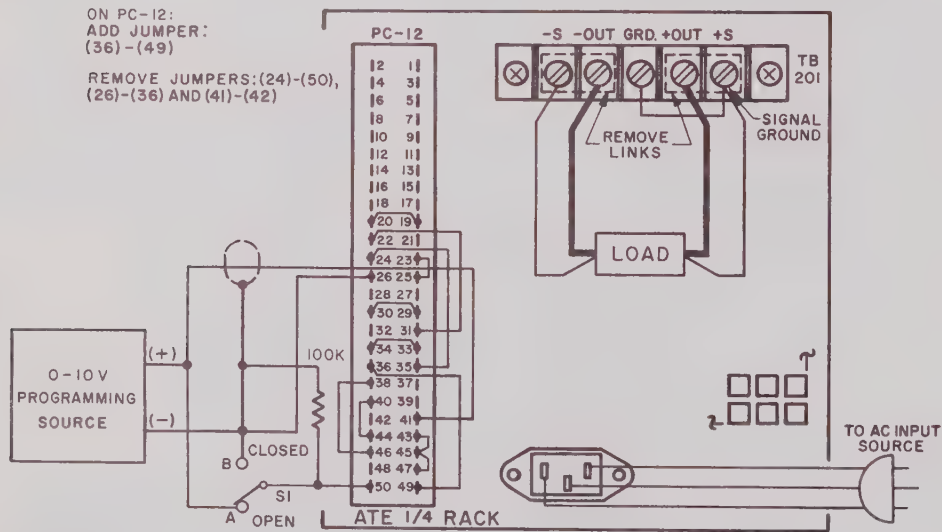

FIG. 3-15 CONNECTIONS FOR SIMULTANEOUSLY PROGRAMMING THE ATE OUTPUT VOLTAGE AND THE CROWBAR LEVEL (AUTOMATIC TRACKING).
- 1) Connect jumpers on the REAR PROGRAMMING CONNECTOR as indicated in FIG. 3-15 and connect switch (S1) as shown. Turn front panel CROWBAR LEVEL control fully counterclockwise.
- 2) Connect a substitute LOAD and the EXT. PROGRAMMING SOURCE as shown in FIG. 3-15.
- 4) Remove S1, and connect a jumper between (41)–(50) of PC–12. Connect the actual LOAD, reactivate the ATE circuit breaker and commence operation. Should erratic triggering occur in actual operation, set front panel CROWBAR LEVEL control slightly clockwise. This will increase the "threshold" voltage; that is, the difference voltage between the crowbar level and the operating voltage.